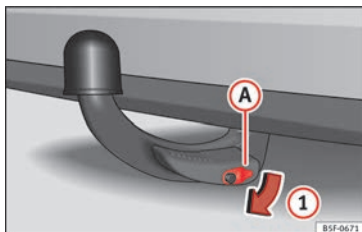

Fig. 233 Removing the lock cover
- Remove cover (A) from the lock in the direction of arrow (1) » Fig. 233.